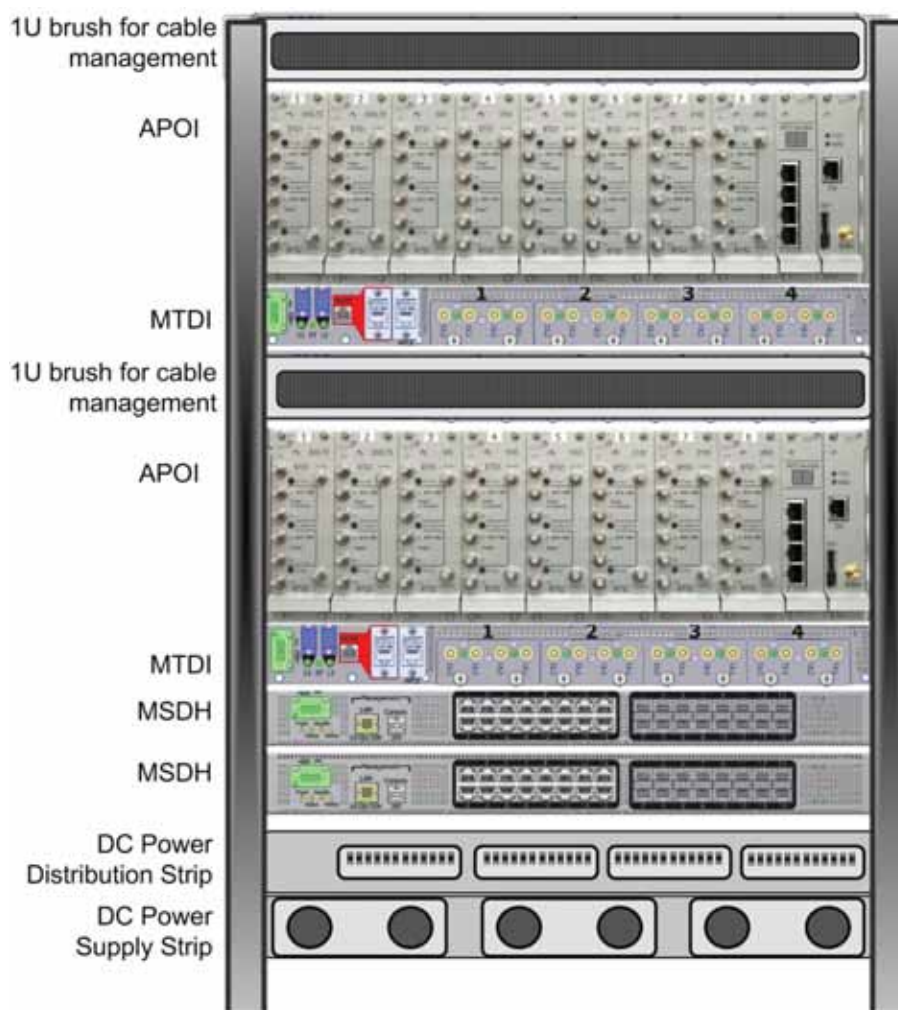

Figure 4-1. Example of Headend Rack Installation for DC powered MSDH and MTDI Units
- Referring to the element dimensions described in 4.3.1.1 and to Figure 4-1, plan the location of each element in the rack: